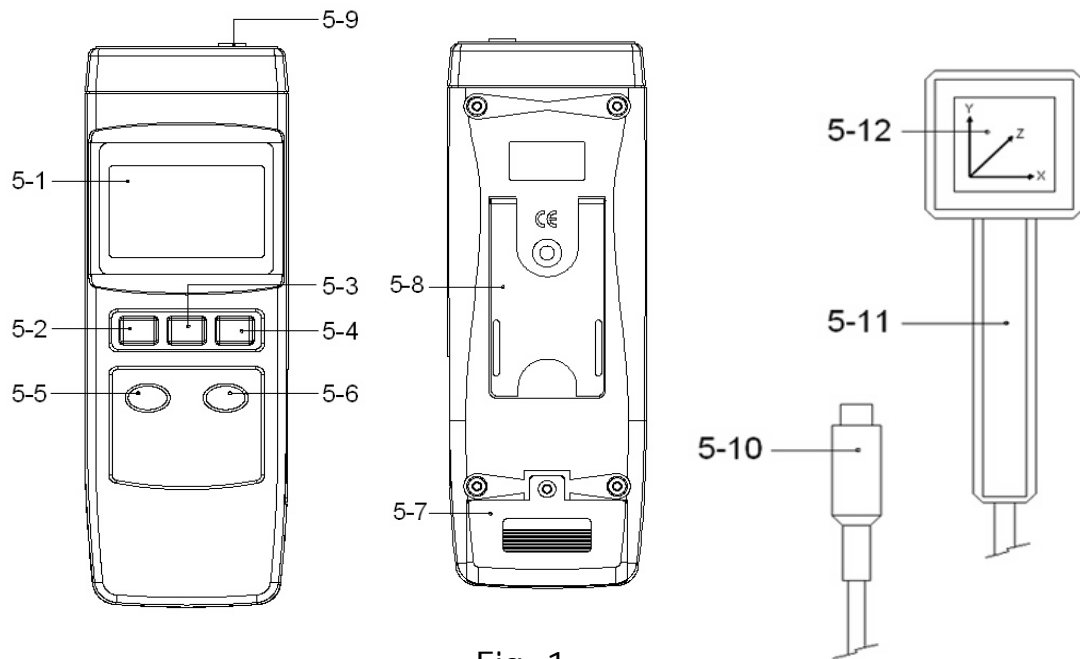

Fig. 1
- 1) Power ON the meter by pushing the " Power button " (5-2, Fig. 1).
- 2) Select the desired unit (micro Tesla or mili-Gauss) by pushing the " Unit button " (5-5, Fig. 1).
- 3) Use the " Range button " (5-6, Fig. 1) to select the suitable range. For the unknown EMF measurement, start with the highest range and keep decreasing until the higher resolution's reading is obtained.
- 4) Hold the " Probe handle " (5-11, Fig. 1), move the " Probe sensing head " (5-12, Fig. 1) slowly towards to the object under measurement until it is physically touched.
- 5) Use the " XYZ axis select button " (5-4, Fig. 1) to select the EMF value in the X, Y or Z axis.
- 6) During the measurement, if push the " Hold button " (5-3, Fig. 1) will freeze the display value. Push the " Hold button " again will release the Hold function.
- 2) Slide the " Battery Cover " (5-7, Fig. 1) away from the instrument and remove the battery.